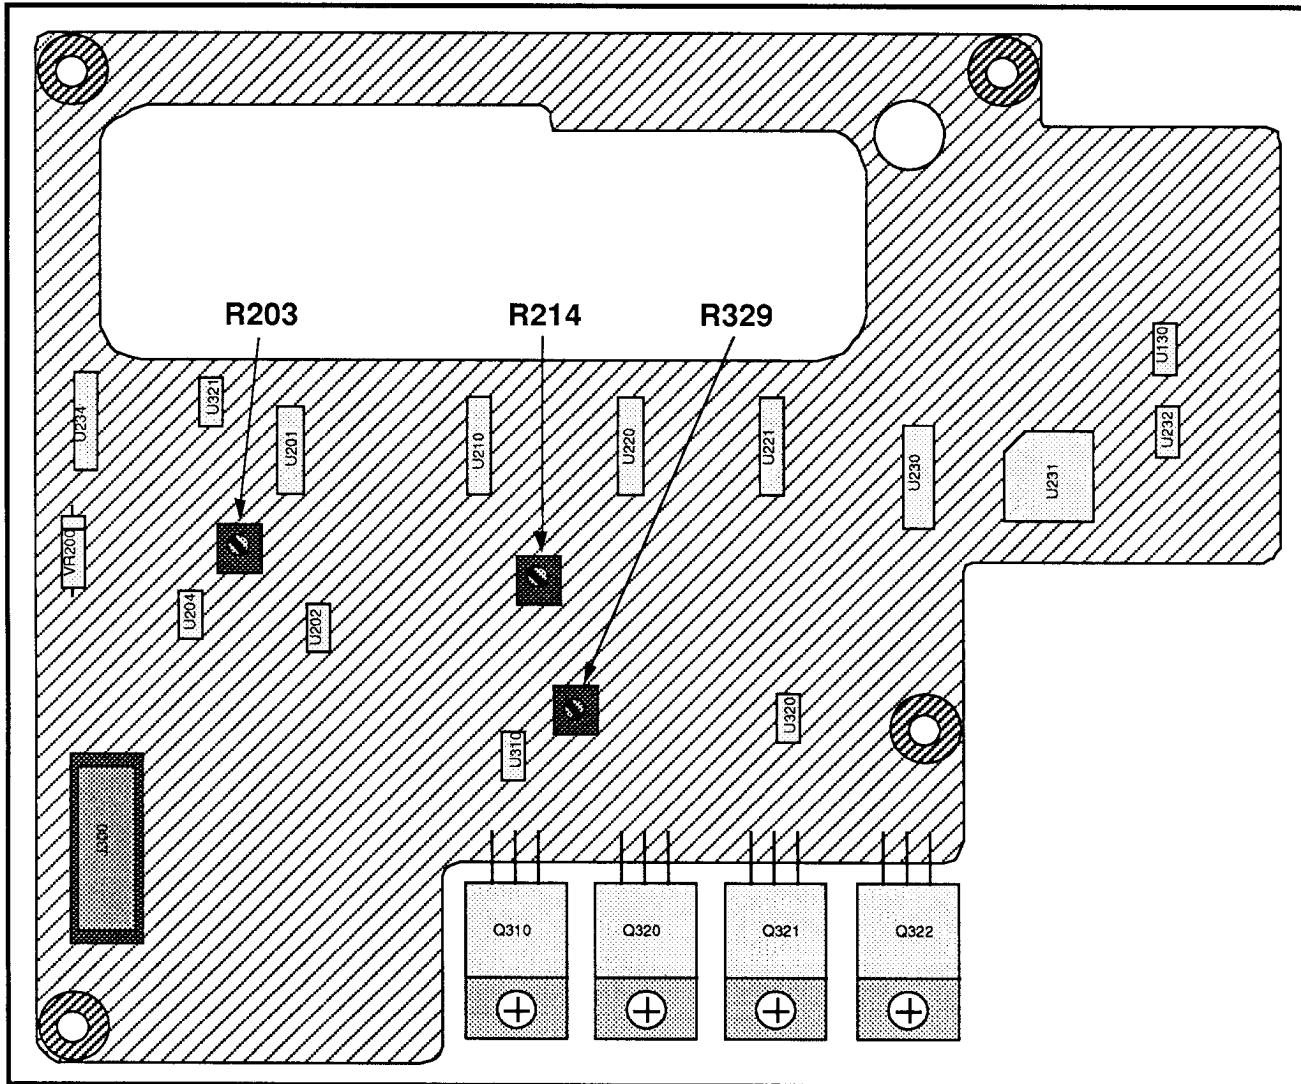

Figure 4-17. Adjustment locations on the Interface board.
- (1) Connect the tracking generator Output to the RF INPUT.
- (2) Enable the 105.5 MHz oscillator by pressing UTIL 5 7 4. (This enables the tracking generator.)
- (3) Set the tracking generator output attenuation to 0 dB by pressing 0 0 Y.
- (4) Set the AMPLITUDE DAC VALUE to 1600 by pressing 2, entering 1600, and pressing keypad W to terminate the entry. Press any menu button to exit the menu.
- (5) Recall the saved spectrum analyzer flatness display settings by pressing UTIL 1 8 W.
- (6) Enable B, C MINUS A mode by pressing DSPL 2 and B, C MINUS A OFFSET TO CENTER by pressing DSPL 3. Turn off all displays except the B DISPLAY.
- (7) Connect the tracking generator output to the RF INPUT.
(8) Set R329 (Figure 4-17) on the Interface board for a signal near mid-screen.
(9) Adjust R203 and R214 (Figure 4-17) on the Interface board for the flattest possible display.
(10) Set the FREQUENCY to 100 MHz and enable ZERO SPAN.
(11) Monitor TP650 on the Phase Lock Loop board with a voltmeter.
(13) Adjust R329 (Figure 4-17) on the Interface board for 0 dBm at 100 MHz (four divisions down from top-screen).
(14) Set the AMPLITUDE DAC VALUE to 4095 by pressing UTIL 5 7 2, entering 4095, and pressing W to terminate the entry. Press any menu button to exit the menu.
(15) Monitor the tracking generator with the power meter.
(16) Check that the level at 100 MHz is  $\geq +4$  dBm.
(17) Turn the FREQ/MKRS knob one click counter-clockwise (DAC VALUE = 0).
(18) Check that the level at 100 MHz is  $\leq -4$  dBm.
(19) Set the AMPLITUDE DAC VALUE to 1600 by pressing UTIL 5 7 2, entering 1600, and pressing W to terminate the entry. Press any menu button to exit the menu.
(20) Check flatness as follows: